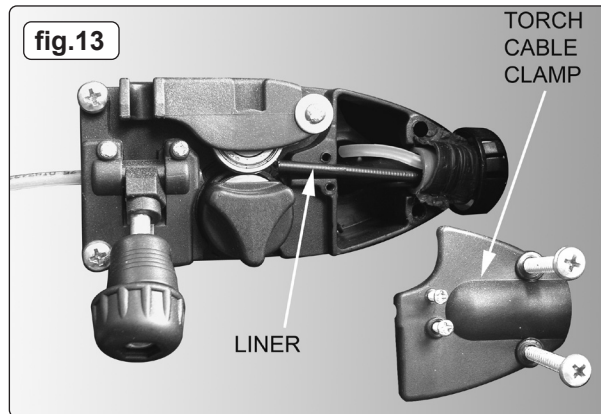
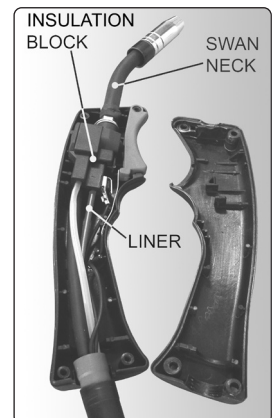

fig.13
fig.14
6.6.1. A worn or damaged wire liner will seriously affect the performance of the welder and should be immediately replaced. First wind the wire back onto the spool and secure it. Remove the four screws securing the torch cable clamp to the wire feed unit (fig.13) and take off the clamp. Undo the torch case (fig.14) and pull the wire liner from the insulation block. Pull out the liner from the torch cable and insert the new one. Reverse the process to re-assemble. Ensure the liner is fully inserted into the torch insulation block and reassemble the torch. Trim the other end of the liner as close to the feed roller as possible. Replace the torch cable clamp.